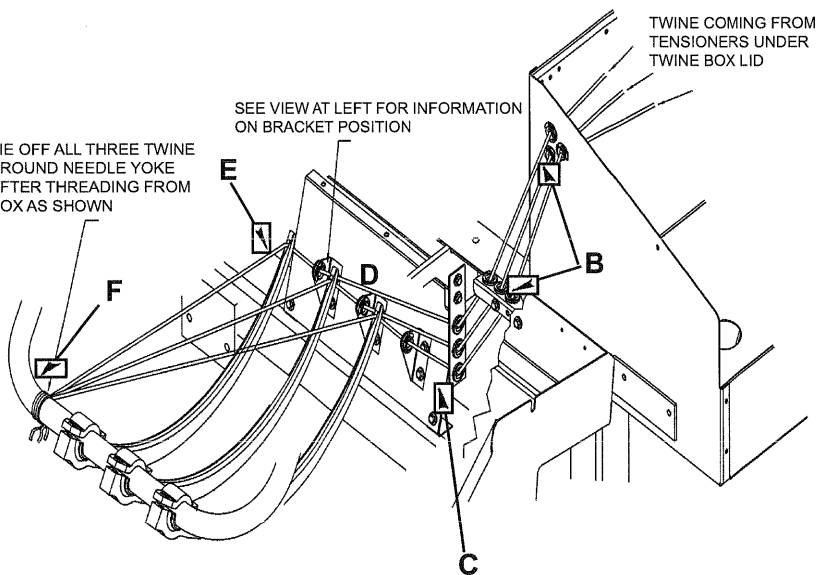

Fig.38
Fig.38 shows the correct routing of the twine from the twine box to the needles, with no crossing or tangling after the twine box lid is shut.
A. Put twine in the twine box. Route the twine through the twine guides and twine tension assemblies on the inside of the lid "A" Fig.38, then through the twine guides on the rear of the twine box.